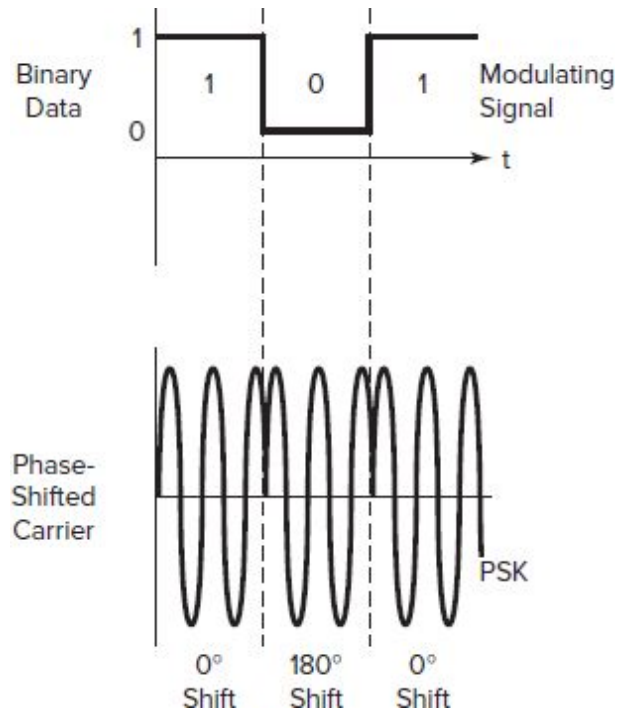

Fig. 10-6 BPSK.
Binary phase-shift keying (BPSK) is one of the most widely used types of modulation in transmitting digital data. The digital data is used to shift the phase of a constant-frequency carrier. In BPSK, a binary 0 is transmitted as a carrier with no phase shift, while a binary 1 is transmitted with a 180° phase shift (phase inversion). This is illustrated in Fig. 10-6.
5. Adjust the frequency of the carrier generator until you see a BPSK waveform that is as close to those in Fig. 10-6 as possible. You will need to tune the function generator carefully to synchronize the carrier and modulating signal frequencies. Measure both the carrier and data frequencies with the counter.